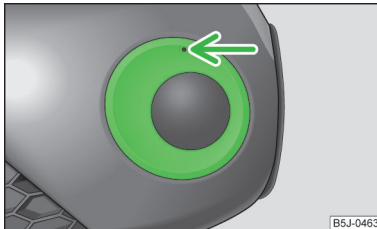

Fig. 166
- › Insert the tool » page 166, *Vehicle tool kit* into the opening above the fog light » Fig. 166 and remove the cover.